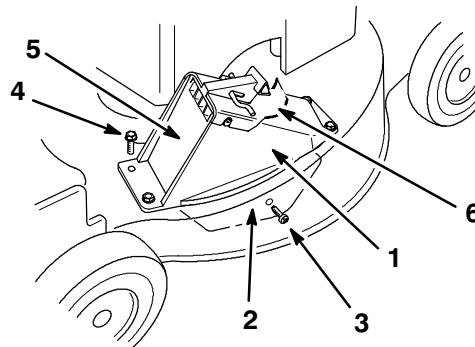

Figure 38
1. Grommet (4)
7. Insert the tongue of the discharge tunnel into the lawn mower (Fig. 38).
8. Align the holes in the tunnel with the grommets in the lawn mower (Fig. 38).
9. Ensure that the hole in the tongue aligns with the hole in the side of the lawn mower (Fig. 38).
4. Bolt (3)
10. Install the self-tapping plastite screw supplied with the grass catcher into the side hole and tongue, and partially tighten the screw (Fig. 38).
11. Using three screws supplied with the grass catcher, fasten the discharge tunnel to the lawn mower (Fig. 38).
14. Open and close the tunnel door to ensure that it moves freely (Fig. 38).